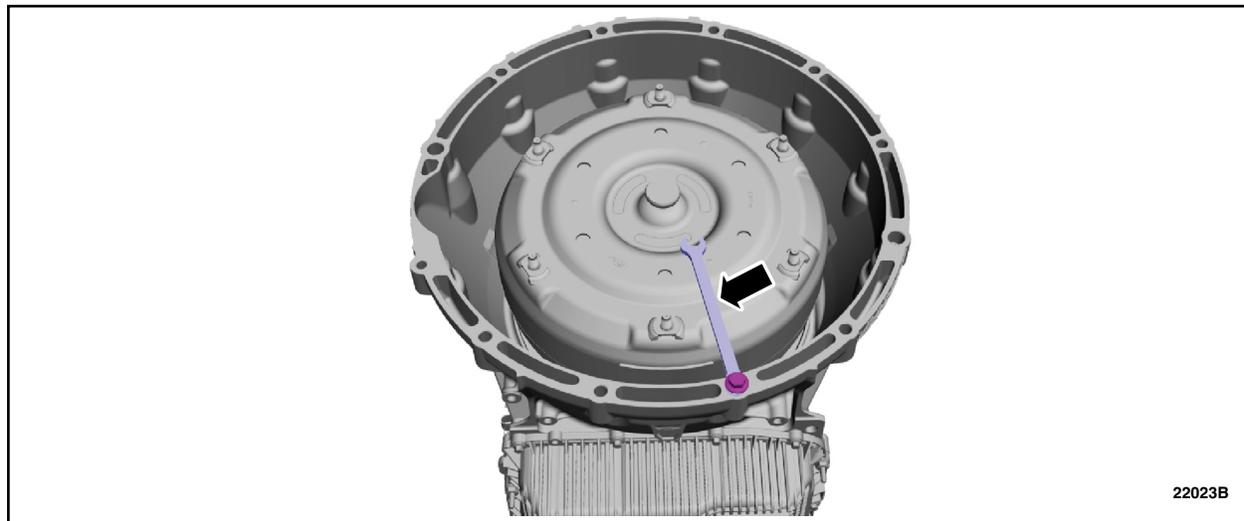

FIGURE 62
71. Rotate the transmission to a vertical position and install the 12 mm combination wrench. See Figure 62.